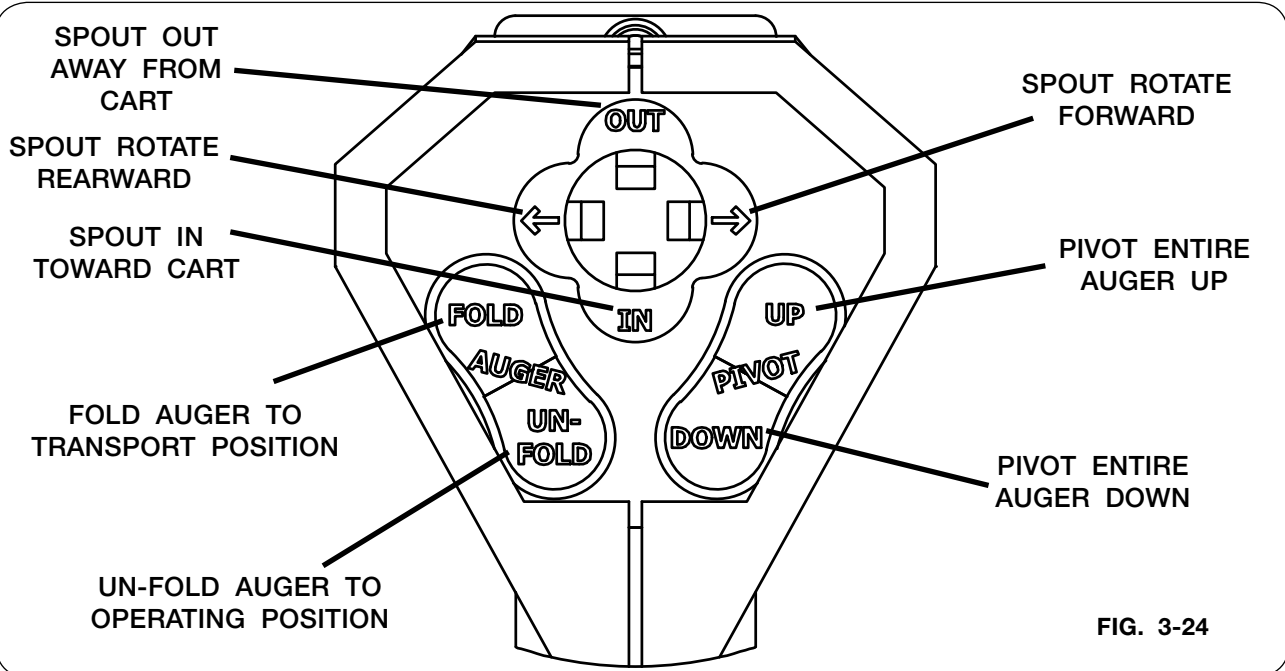

FIG. 3-24
3. To fold auger out from transport to operating position, push down the auger unfold button on joystick face until the upper and lower auger are engaged and fold linkage is over center. See Fig. 3-24.
4. To pivot spout OUT away from cart, push hat switch toward OUT. Hold the switch until desired position is achieved. See Fig. 3-24.
5. To pivot spout IN toward cart, push hat switch toward IN. Hold the switch until desired position is achieved. See Fig. 3-24.
6. To pivot the entire auger UP, press and hold the auger pivot UP button until the desired height is achieved. See Fig. 3-24.
7. To pivot the entire auger DOWN, press and hold the auger pivot DOWN button until the desired height is achieved. See Fig. 3-24.
8. To pivot the spout FORWARD, push hat switch RIGHT. Hold the switch until desired position is achieved. See Fig. 3-24.
9. To pivot the spout REARWARD, push hat switch LEFT. Hold the switch until desired position is achieved. See Fig. 3-24.